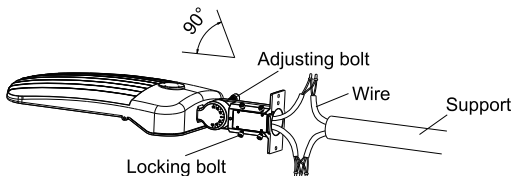

Figure 18
Step 2: Loosen the four bolts on A&D bracket, connect the wires correctly, and pull the wires into the poles. (Figure 18)
Step 3: Place the bracket into the pole and lock the four bolts. (Figure 18)
Notice: Adjustable angle is 0-90° (Figure 18)